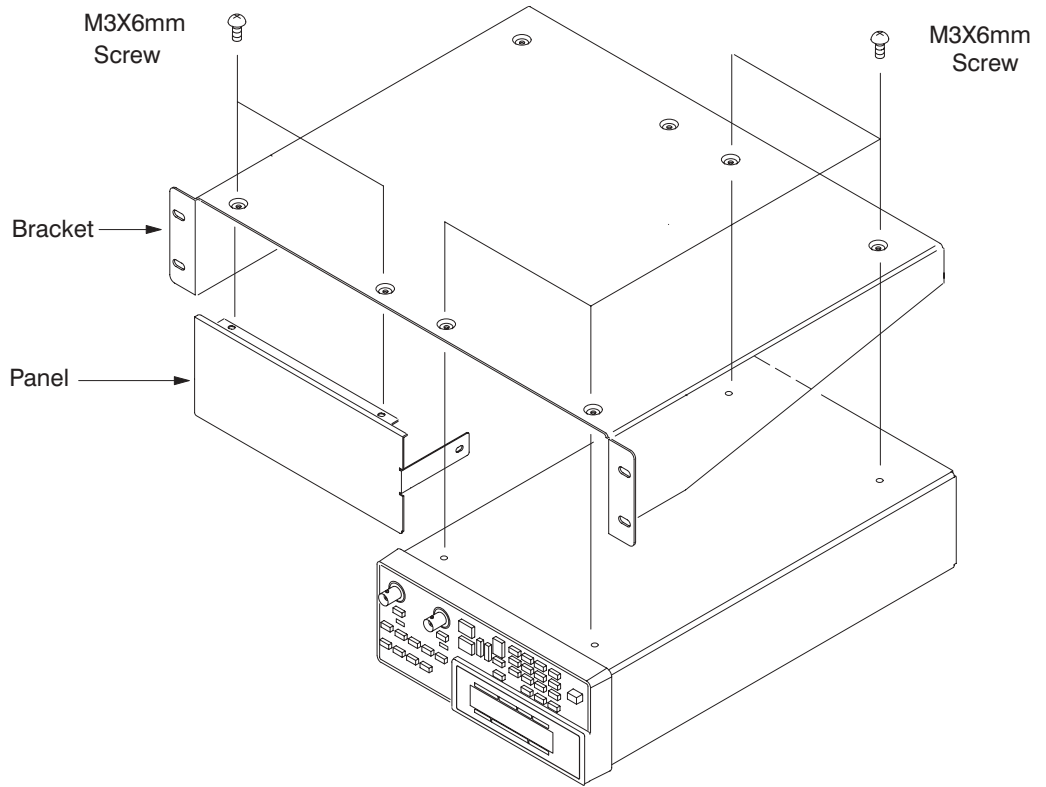

Figure 5: Attaching bracket and panel
2. Put the bracket on the instrument and align the bracket screw holes with the instrument screw holes. See Figure 5.
1. Put the panel next to the instrument as in the Figure 5 and align the panel screw holes with the bracket screw holes.